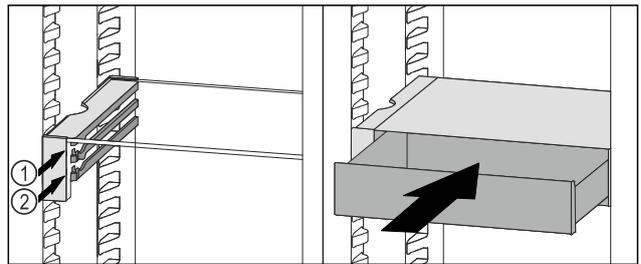

Fig. 82
- ▶ Place the VarioSafe drawer behind the stoppers on desired rib Fig. 82 (1) or Fig. 82 (2).